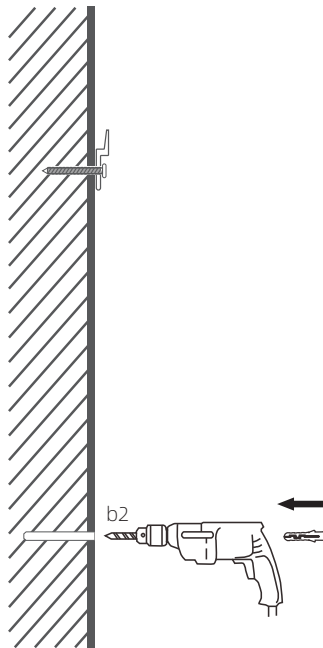

Fig. 4
- Remove the mirror cabinet, drill the fixing hole in the wall in the marked position, and place the expansion plugs (Fig. 4).